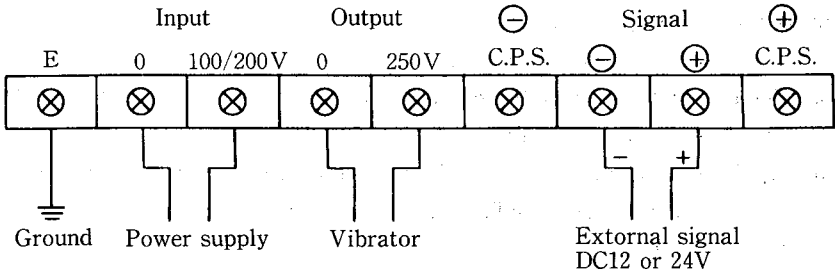

Figure 6.4 ON/OFF control using a non-contact signal
- (3) Figure 6.4 illustrates a sample connection when the external signal is a non-contact type voltage signal.